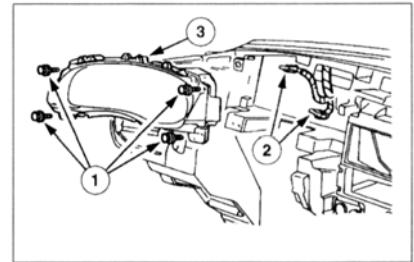

Figure 3
- B. Remove the four 7mm retaining bolts from the Instrument Cluster (1) (See figure 3).
- D. Disconnect the electrical connectors (2) and remove the Instrument Cluster (3) (See figure 3).